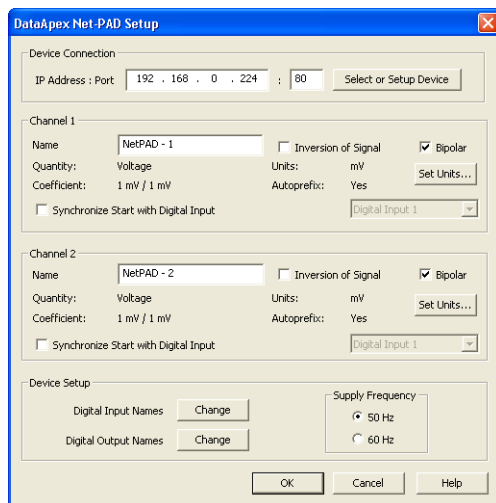

Fig. 14: DataApex Net-PAD Setup dialog
- In dialog described in the **Fig. 14** on pg. **18**. use the *Select or Setup Device* button.